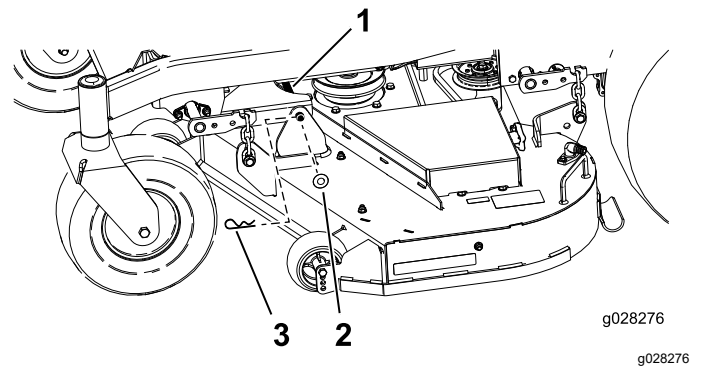

Figure 77
6. Remove the hairpin cotter and washer securing the link pin to the frame and deck, and remove the link bar (Figure 77).
9. Secure the link pin with the hairpin cotters and washers removed previously (Figure 77).